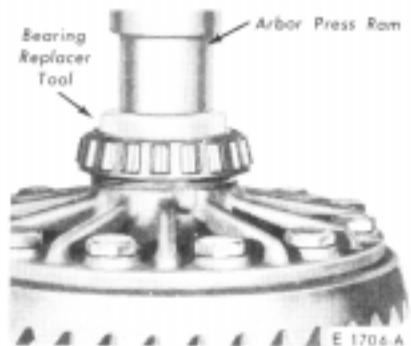

FIG. 15 Installing Differential Bearing
1. Press the differential bearings onto the case without shims (Fig. 15). The bearings must bottom on the case shoulder.